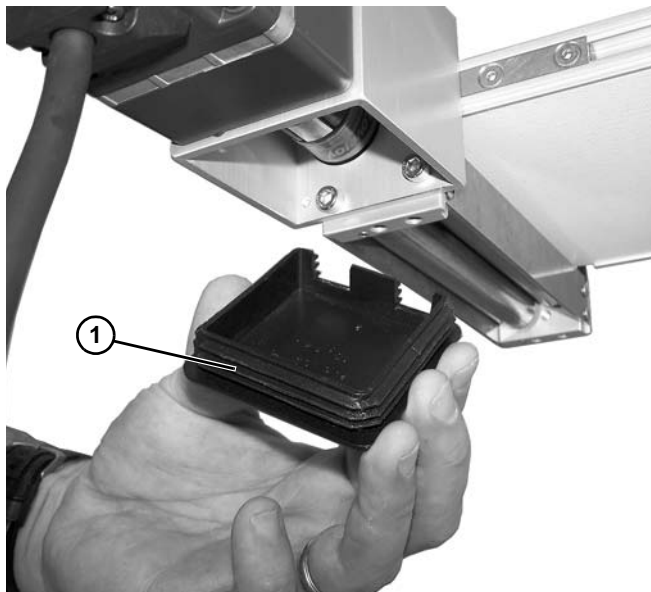

Figure 21
1. Remove bottom plastic cover (Figure 21, item 1).